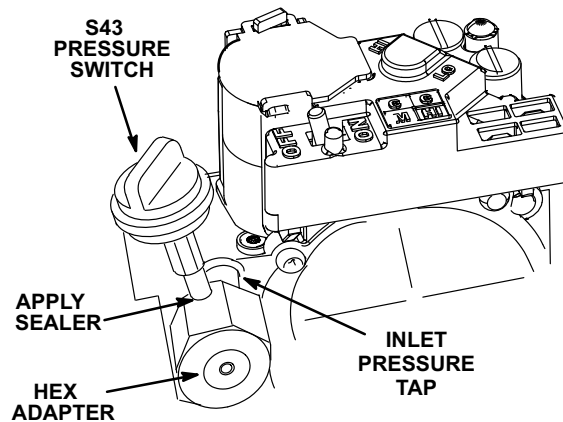

FIGURE 5
- 2- Install the hex adapter and pressure switch on the inlet pressure tap of the two-stage gas valve. Apply pipe sealer to at least the first three threads of hex adapter. See figure 5.